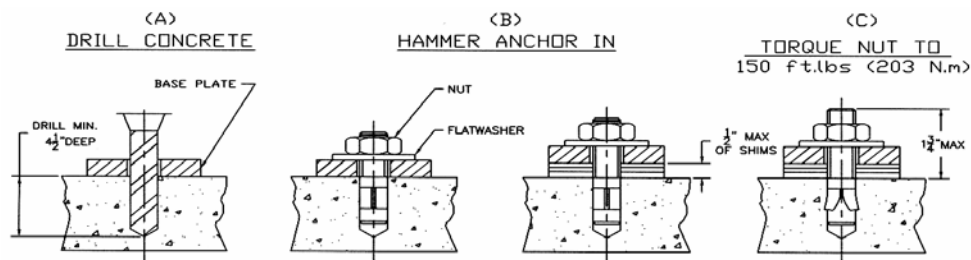

Figure 17 – Anchor Bolts
4. Carefully clean out drilling dust from the anchor holes. Hammer in the anchor bolts (**Figure 17**). Hand tighten all anchor bolts.
6. Torque all anchor bolts to 150 ft-lbs. (203 Nm), continually checking that the column is level as you proceed. If anchor bolts do not tighten to 150 ft-lbs. OR project more than 1 3/4" above the concrete surface (**figure 17**), the concrete MUST be replaced by an appropriate concrete pad. (*Consult Product Manufacturer / Supplier for further details*).
2. Refer to Bay Layout (**Figure 3**) to ensure that the column is still in the proper position. Using a rotary hammer drill with a 3/4" masonry drill bit, drill holes in the floor on the low side column using the tower baseplate as a template. Make sure that the 3/4" masonry drill is in good condition (**Figure 17**).
3. Carefully clean out drilling dust from the anchor holes. Hammer in the anchor bolts (**Figure 17**). Hand tighten all anchor bolts.
5. Torque all anchor bolts to 150 ft-lbs. (203 Nm), continually checking that the crossmember and column are level as you proceed. If anchor bolts do not tighten to 150 ft-lbs. OR project more than 1 3/4" above the concrete surface (**Figure 17**), the concrete MUST be replaced by an appropriate concrete pad. (*Consult Product Manufacturer / Supplier for further details*).